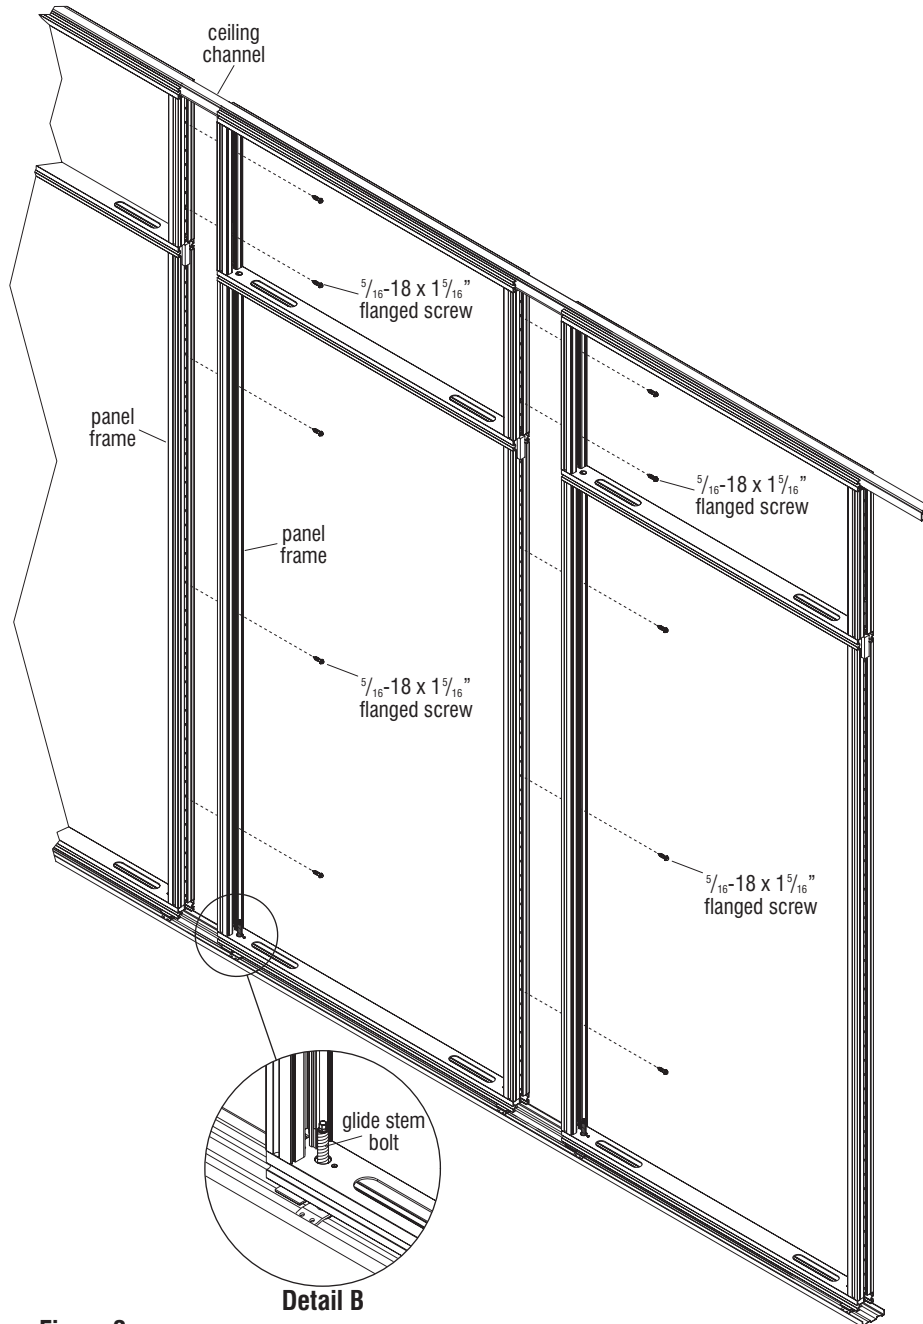

Figure 2
6. With the help of two or more people, carefully rotate the panel with solid or acoustic stacking section unit up, setting the bottom of the assembled unit into the floor channel and tip the unit up vertical, directly under the ceiling rail. With help holding the panel with stacking section upright vertical, use the same power drill, 18" extension with  $\frac{5}{16}$ " socket and raise the assembly up into the ceiling rail by turning all glide stem bolts clockwise (Figure 2 & Detail B).
7. Assure that the panel with stacking section unit is set to its final installation location, then adjust glides to achieve a leveled panel, fully engaging the ceiling rail (Figure 2 & Detail B). See page 20 "Panel Height Adjustment" steps 5–8 for reference.
8. If specified that an additional panel with solid or acoustic stacking section unit is to be joined to the first unit above, begin again by following steps 5–7, previous page. Take care to assure that the second unit is up and leveled next to the first, set perfectly plumb to be joined together. Press the second panels with stacking section unit tight to the first and secure the panel frames together using three evenly spaced  $\frac{5}{16}$ -18 x  $1\frac{5}{16}$ " flanged screws at pre-drilled holes in the panel's vertical frame uprights (Figure 2 & Detail B).
9. Next, at the solid or acoustic stacking section unit of the second assembly, hold the stacking section tight to the top of the first and secure together using two or three #10-32 x  $\frac{1}{2}$ " T25 pan head screws with a power drill and T25 Torx driver to secure the tops of the units together as illustrated (Figure 2).